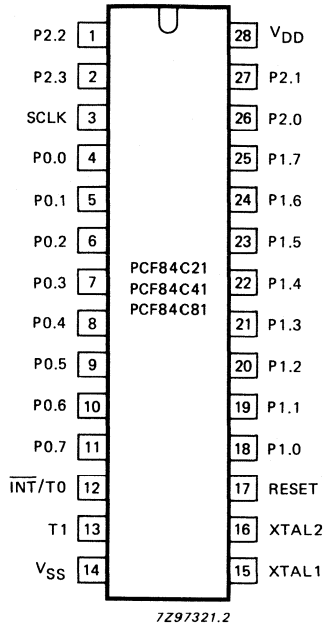

Fig. 2 Pin designation of the PCF84C21/41/81.
3. Bottom pinning is identical to that of Fig. 2.